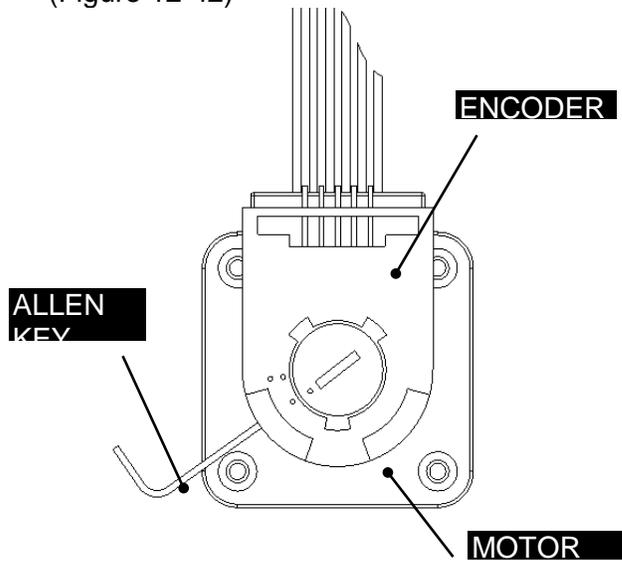

Figure 12-42: Unscrewing Hub Set Screw
2. Place an Allen Key into the body of the encoder and unscrew the Hub Set Screw (Figure 12-42)